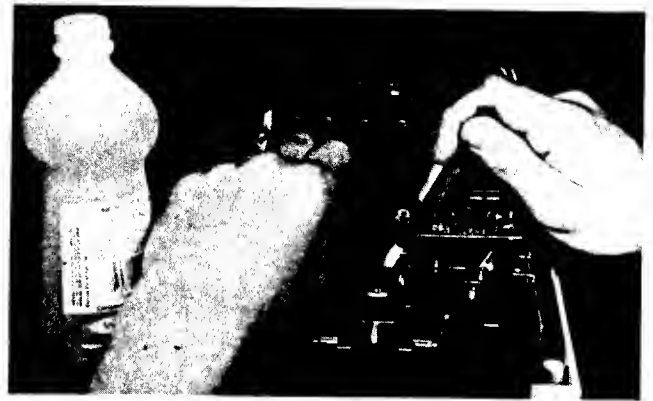

Fig. 5-10. Drive read-heads can be cleaned using denatured alcohol and a lint-free swab.
5. Drive heads can also be cleaned with denatured alcohol and a cotton swab wrapped in a lint-free material (Fig. 5-10).